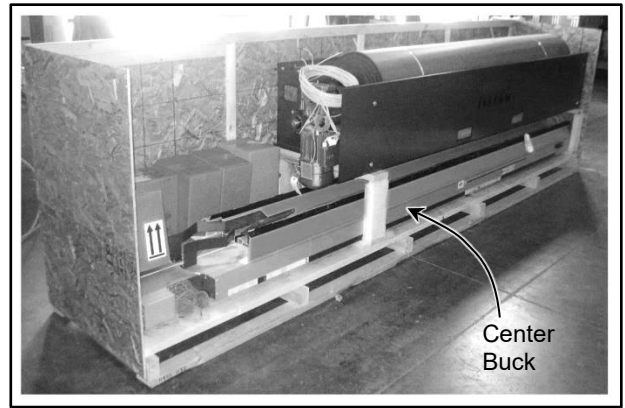

Figure 3
2. Remove the front of the crate. (See Figure 3)
1. Remove the blocking from the head assembly buck in the middle of the shipping crate to gain access to the side columns. (See Figure 3)